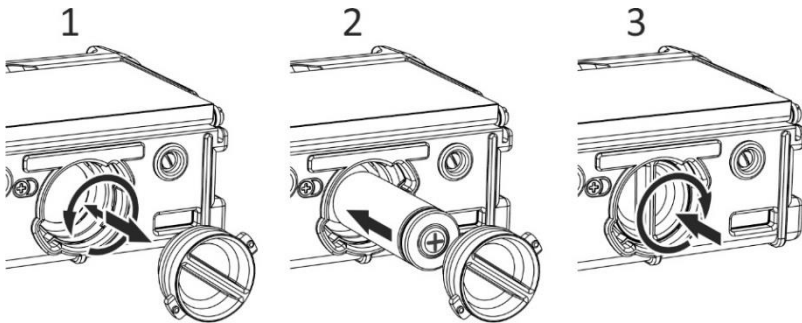

Figure 2.3 – Inserting the storage battery into the battery compartment
2.2.4.1 To insert the battery into the battery compartment do the following (Figure 2.3):